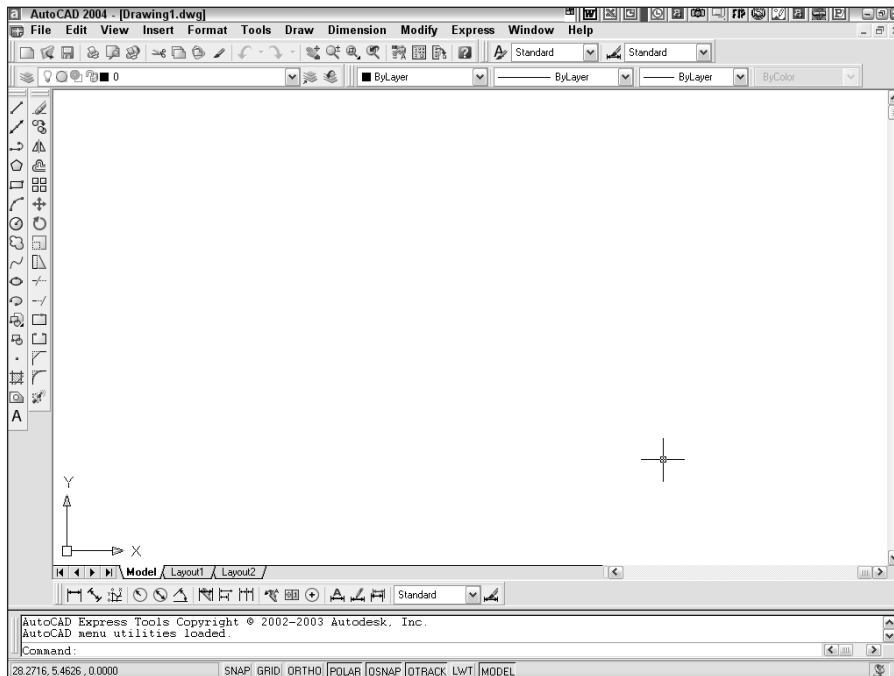

Figure 3-5: The Dimension toolbar is docked at the bottom of the screen.
9. Drag the Dimension toolbar by its title bar down to the bottom edge of the drawing area until its outline becomes a dotted horizontal bar. The Dimension toolbar docks at the lower edge of the screen, as shown in Figure 3-5. You don't have as much screen space as before, but the toolbar is off the drawing area.